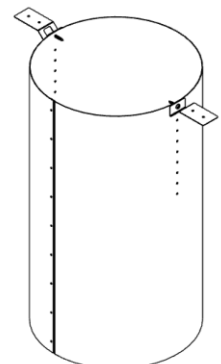
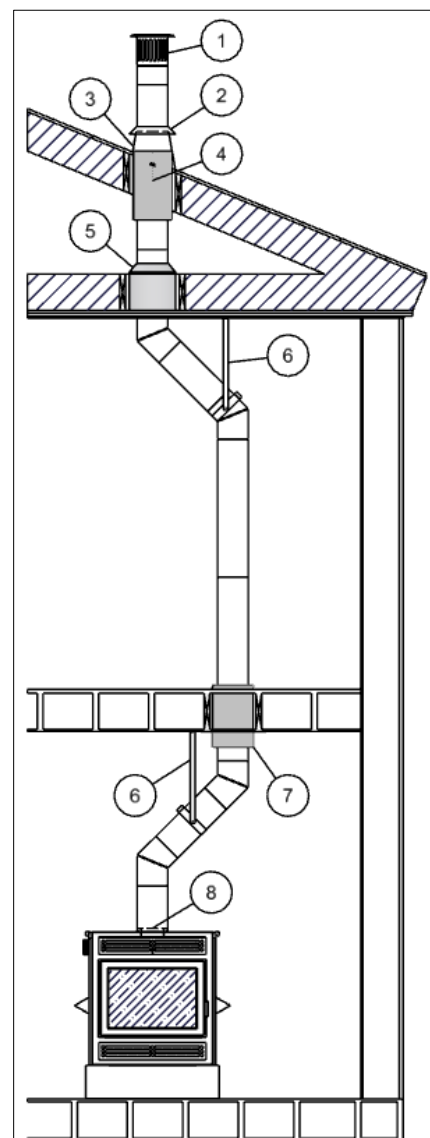

Figure 2-10: SUPREME 6 Inch Roof Radiation Shield
Figure 3-5: Standard Offset Installation
The SUPREME 6 Inch Roof Radiation Shield (SF7100 – Figure 2-10) is a standard component for the Astra Duo fireplace. Prior to installing the chimney flashing and rain cap, the SUPREME 6 Inch Roof Radiation Shield is fastened within the chimney opening of the roof. The SUPREME 6 Inch Roof Radiation Shield is mandatory for a 6" chimney installation. Refer to the instructions provided in the SUPREME 6 Inch Roof Radiation Shield sheet for installation. NOTE: A Roof Radiation Shield is not mandatory for an 8" chimney installation.
3. Install the provided SUPREME 6 Inch Roof Radiation Shield in the opening of the roof if connecting the unit to a 6" chimney system (Figure 2-10 and Item 4 in Figure 3-5) – adjust the shield so that it is extruding approximately 1" above the roof surface. The SUPREME 6 Inch Roof Radiation Shield can be trimmed in order to properly install the vented roof flashing. Ensure to install the appropriate firestop for ceilings and walls.
An offset installation (Figure 3-5) consists of the use of elbows to deviate from unavoidable obstacles or to extend the chimney outside. The following list is a few general rules to take note when installing offsets: